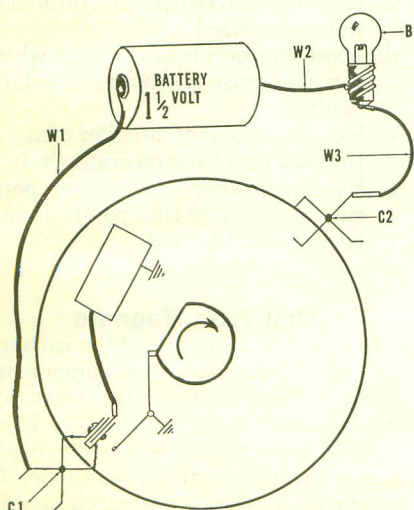

Fig. 2-13—Drawing of a simple test lamp for checking ignition timing and various other complete circuits.
The fundamentals of ignition and electrical system service are outlined in the following paragraphs. Refer to the appropriate heading for type of system being inspected or overhauled. A simple, easily constructed test lamp is shown in Fig. 2-13. A similar test lamp or Ohmmeter can be used to facilitate repair.
**BREAKER POINTS.** Using a small screwdriver, separate and inspect condition of contacts. If burned or deeply pitted, points should be renewed. If contacts are clean to grayish in color, disconnect condenser and coil lead wires from breaker point terminal. Connect one lead (C1—Fig. 2-13) to the
**CONDENSER.** To check condition of the condenser without special test equipment, proceed as follows: The condenser case and wire should be visually checked for any obvious damage. Connect one end of the test lamp (C1—Fig. 2-13) to terminal at end of condenser wire and other end to condenser case. If light goes on, condenser is shorted and should be renewed. It is usually a good practice to renew condenser when new breaker points are installed.
A timing light as shown in Fig. 2-13 is a valuable aid in checking or adjusting engine timing. After disconnecting the ignition coil lead from the breaker point terminal, connect the leads of the timing light as shown. If timing is adjustable by moving the stator plate, be sure that the breaker point gap is adjusted as specified. Then to check timing, slowly turn engine in normal direction of rotation past the point at which ignition spark should occur. The timing light should be on, then go out (breaker points open) just as the correct timing location is passed. If not, turn engine to proper timing